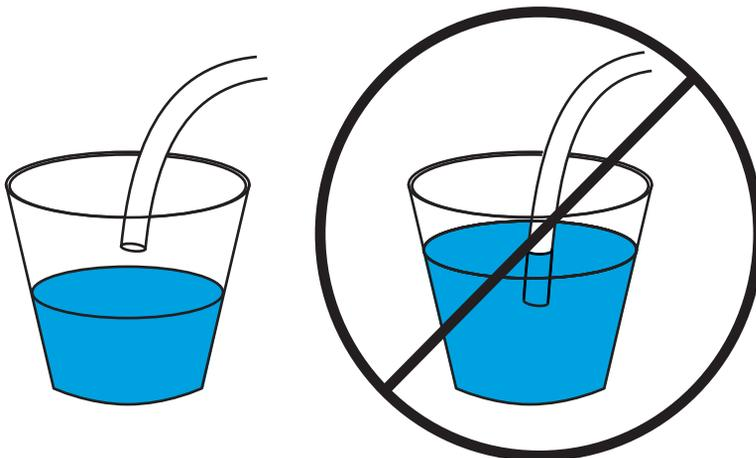

Figure 59 Drainage tube correctly hung (left) and incorrectly submersed (right)
- The open end of the tubing is not submersed in the drainage container (Figure 59).